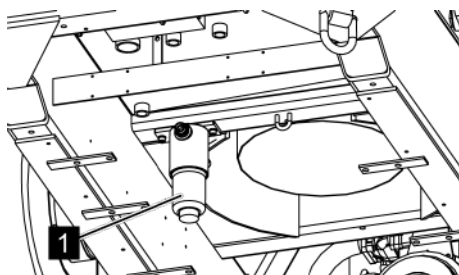

Fig. 169: Hydraulic filters
8. ➔ Screw the filter bowl (Fig. 169/1) back in.